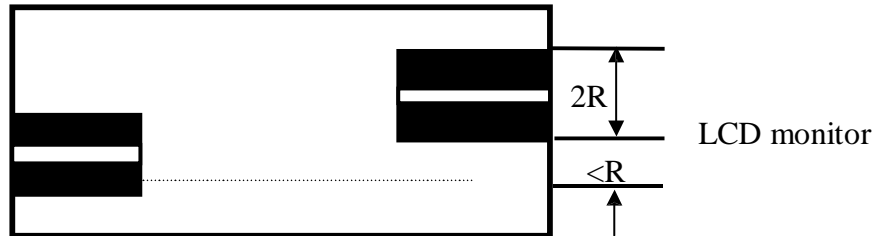

Figure 6 (fiber of X axis and Y axis)
- 2> Open the fiber holder separately, Load cleaved fiber into V-groove, and the end-surface couldn't touch the bottom of V-groove, consult figure 6(a)、(b).